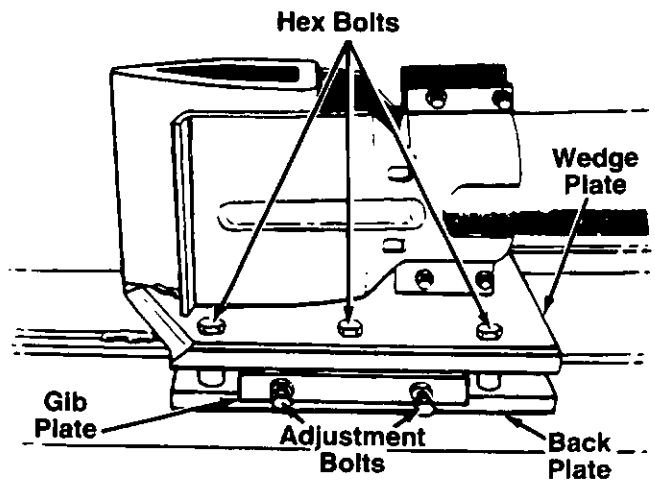

FIGURE 14.
Lubricate both sides of the beam where it contacts the splitting wedge with engine oil before each use to obtain years of service. However, normal wear will occur. Periodically adjust the bolts on the side of the wedge plate as follows to eliminate the excess space between the wedge plate and the beam. See figure 14.
- Remove the center bolt on top of the wedge plate. Slide the gib plate out. See figure 14.